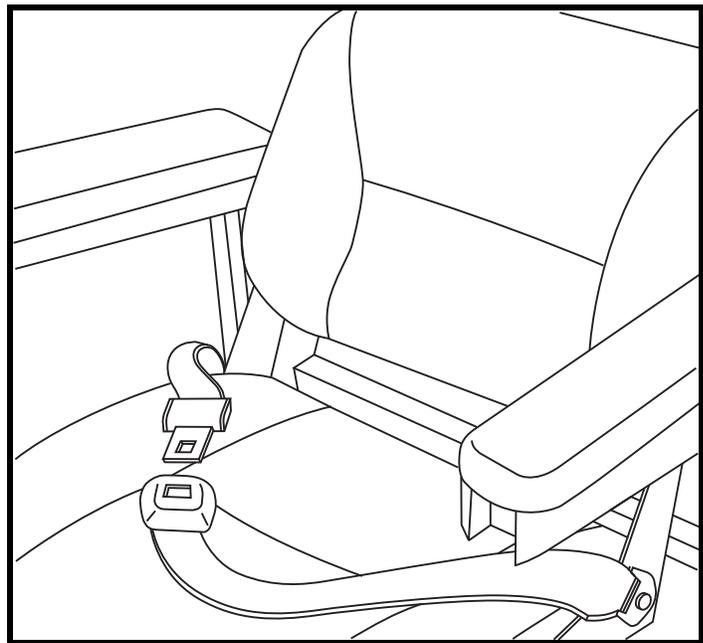

Figure 23. Positioning Belt Adjustment
Your power chair may be equipped with a positioning belt that can be adjusted for operator comfort. See **figure 23**. The positioning belt is designed to support the operator so that he/she does not slide down or forward in the seat. The positioning belt is not designed for use as a restraining device.
1. Once seated, insert the metal tab on one side of the belt into the plastic housing on the opposite side until you hear a click. See **figure 23**.